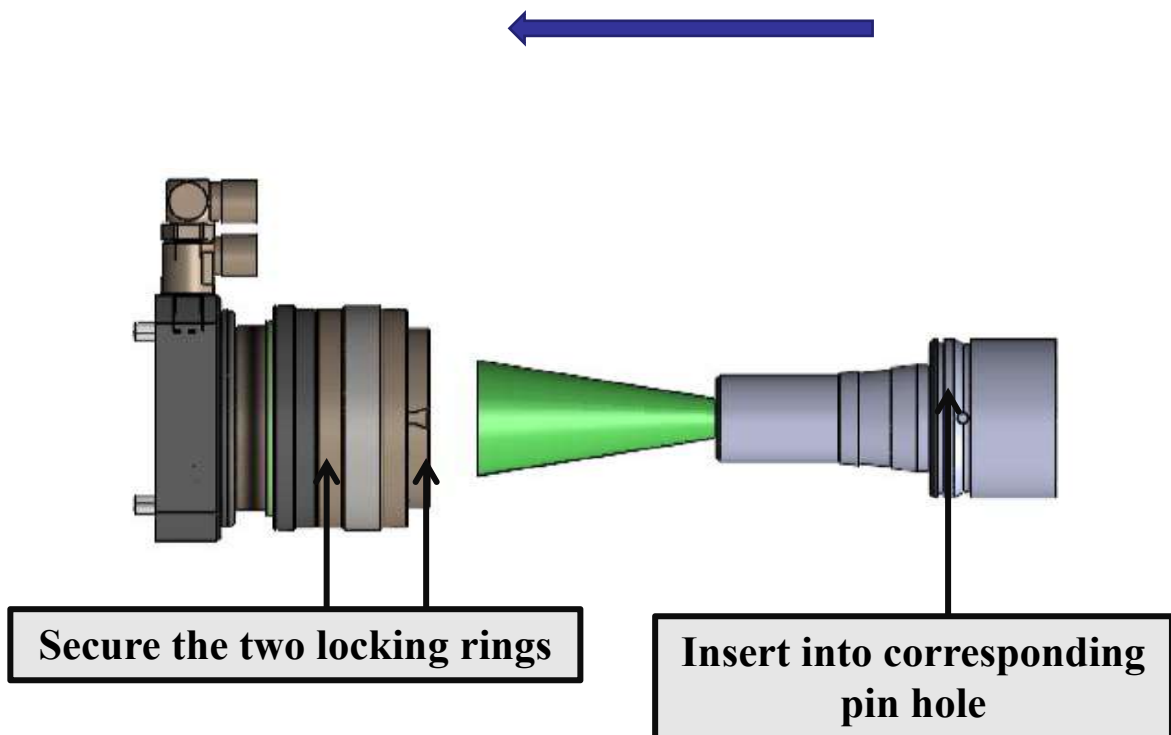

Figure 2.2
- ② Align the Q+ output head with the corresponding pin slot. As shown in Figure 2.2: